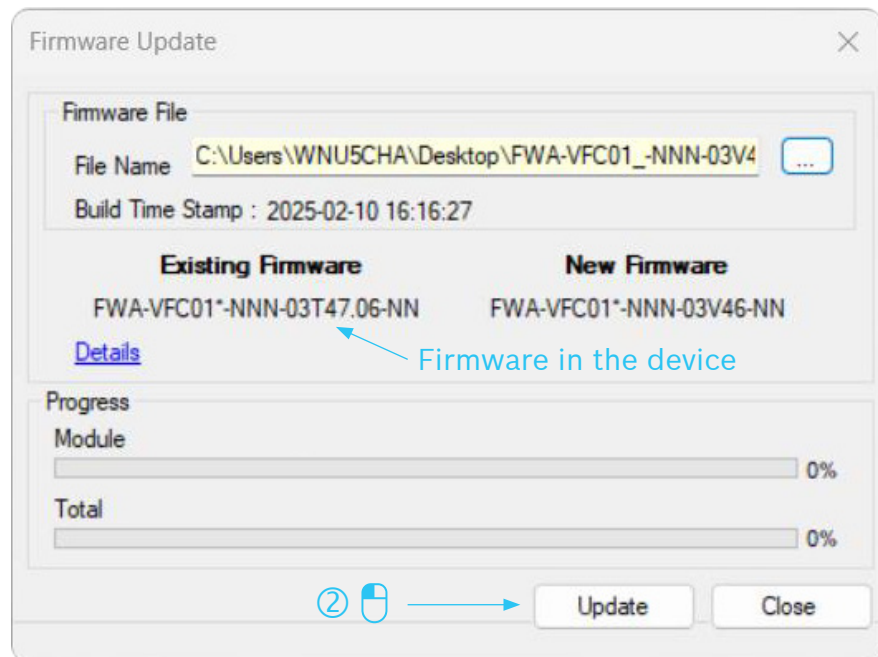

Fig. 14: Firmware update window
- ▶ Click on "..." to navigate to a firmware file (\*.ibf) and download it to the device by clicking on "Update" (see Fig. 14: Firmware update window). A firmware downgrade would be performed in the same way.